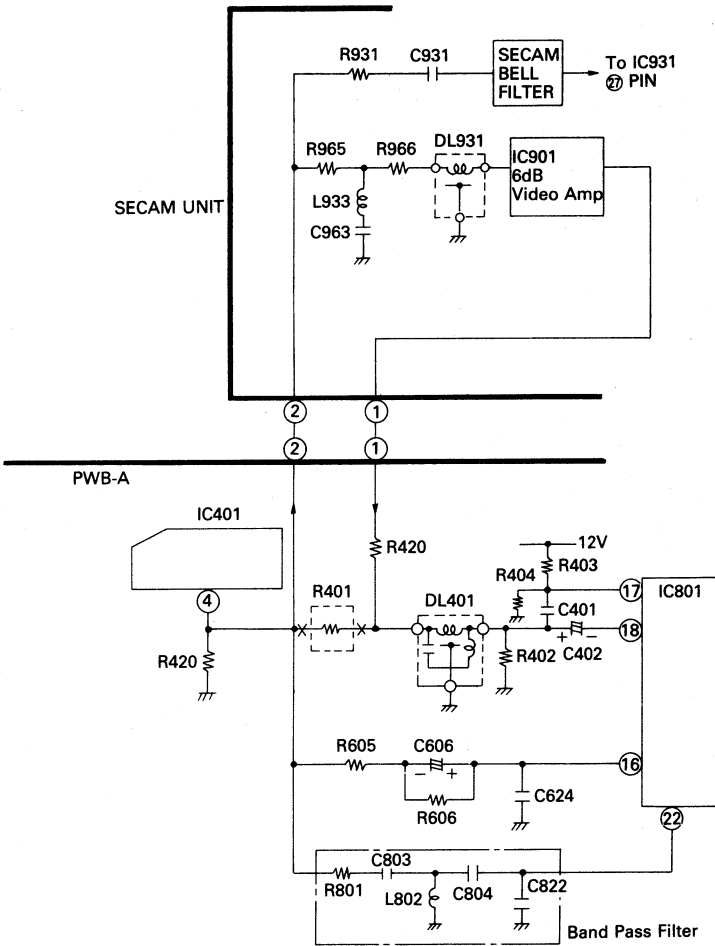

Figure 1 Switching of Video Signal between PAL and SECAM Systems
1. Switching of video signal between PAL system and SECAM system (see Fig. 1.)